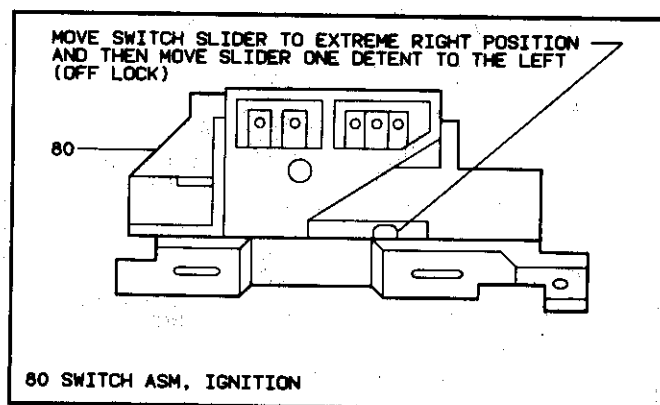

Figure 27 - Adjusting Ignition Switch
- Tighten screws (61) to 5.3 N·m (47 lb.in.).
5. Actuator assembly (76) to housing support assembly (62).
NOTICE: Install ignition switch (80) to jacket (72) with switch in "OFF-LOCK" position. (See figure 27.)
- Ignition switch assembly (80). (See figure 27.)
6. Ignition switch assembly (80) and mounting stud (82).